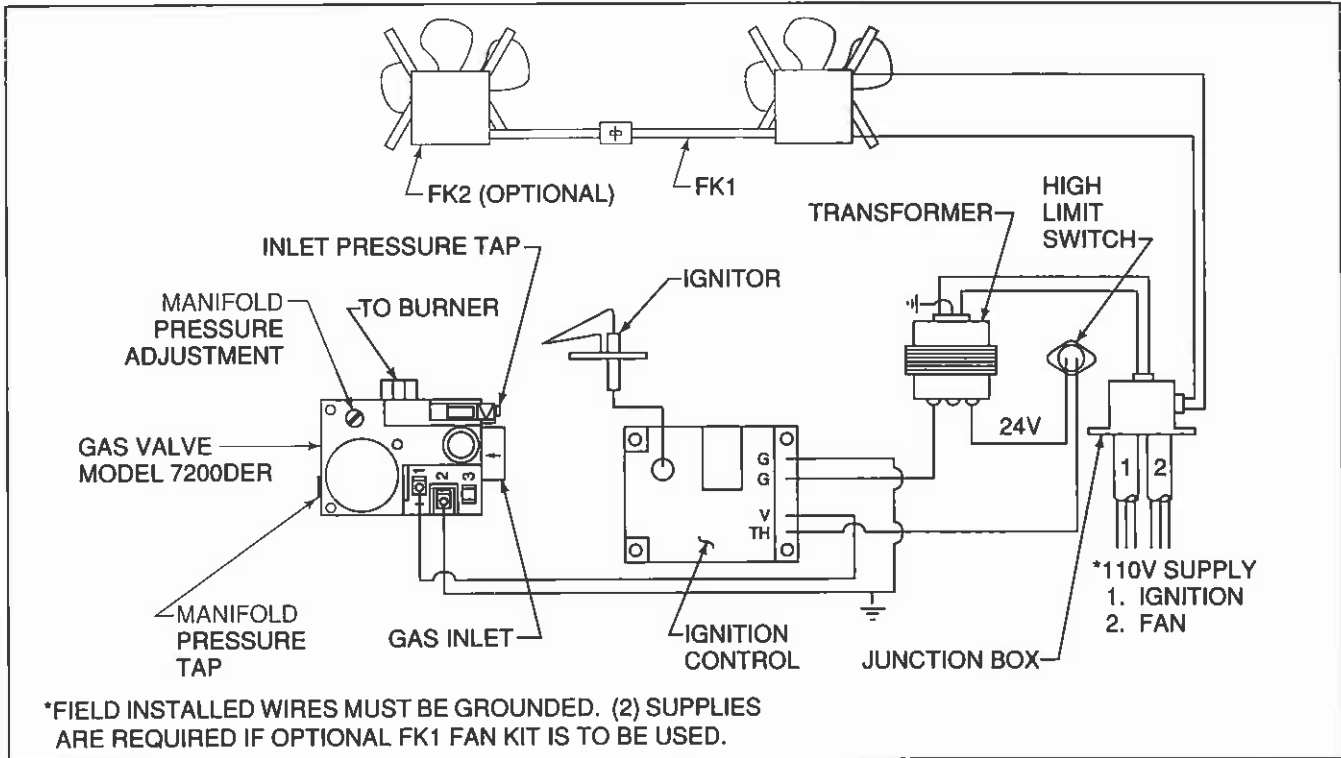

Figure 5
Remote wall switch hook-up should be installed in a convenient location. Follow Figure 5 for wiring diagram. This appliance requires a 110V power supply. If an optional FK1 Fan Kit or RC5 Remote Control Kit are to be used, wiring should be done at this time. The appliance must be electrically wired and grounded in accordance with local codes or, in the absence of local codes, with National Electric Code ANSI/NFPA 70-latest edition. Wiring diagrams are provided with these accessories and in Figure 5. This appliance is not intended for use with a thermostat.
## LIGHTING PROCEDURE (See Figure 5).
B. No ground.	Check that wiring is grounded as shown in Figure 5.